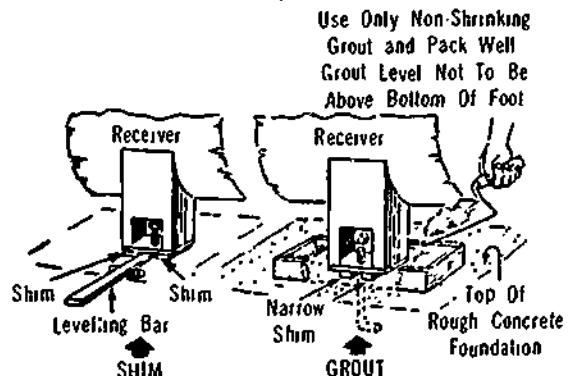

Figure 32-4. Method of Levelling Base
6. *Bases and Foundations.* Although the unit may be placed on any substantial floor or base, a concrete foundation is recommended. It is very important for the unit to sit level and be supported evenly at its base or receiver feet. Shim or grout-up the base to provide equal support and to prevent placing a strain on the unit when the foundation bolts are tightened. The bolts should project above their nuts by a least 13 mm to allow for levelling. After the bolts are tightened, re-check the unit for level. (See Figure 32-4.)